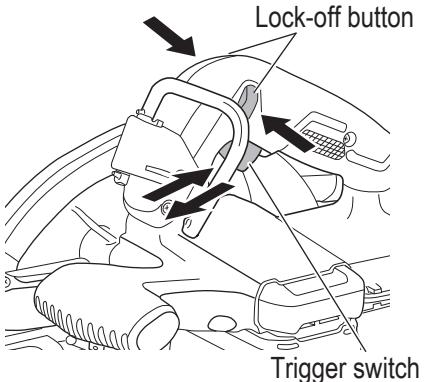

Fig. 21
5. Operation of switch (Fig. 21)